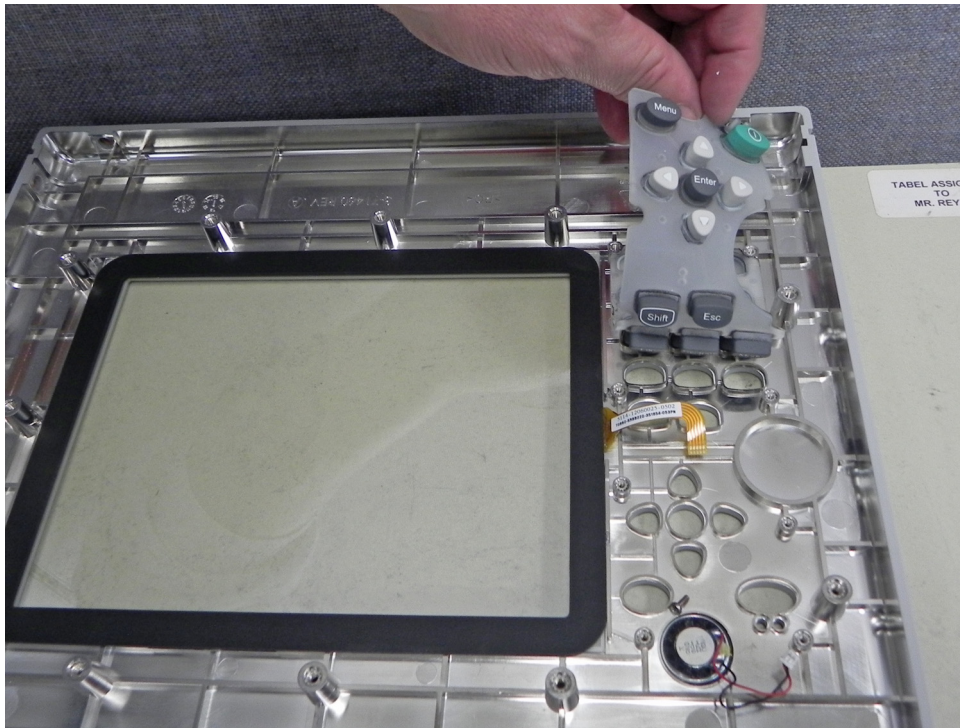

Figure 5-30. Remove Rubber Keypad Membrane
9. Peel up the rubber keypad membrane (Figure 5-30).